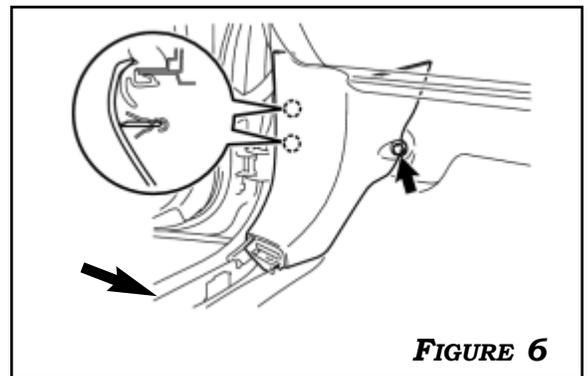

FIGURE 6
6. DISENGAGE THE 6 CLAWS AND REMOVE THE ACCESS DOOR SCUFF PLATE. REMOVE THE CLIP. DISENGAGE THE 2 CLAWS AND REMOVE THE LEFT COWL SIDE TRIM BOARD. **FIGURE 6**
6. REMOVE THE 3 BOLTS. DISENGAGE THE 8 CLIPS AND REMOVE THE CENTER INSTRUMENT CLUSTER FINISH PANEL SUB-ASSEMBLY. **FIGURE 6**